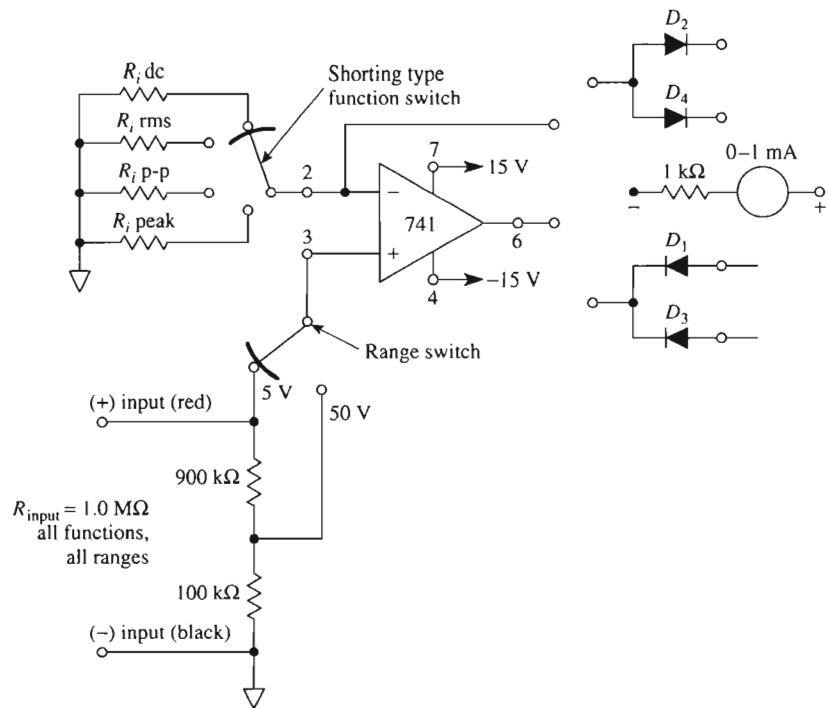

FIGURE P5-3
- 5-3. In Fig. P5-3 complete the schematic wiring between op amp, diodes, and milliammeter. The current through the meter must be steered from right to left.
- 5-4. Calculate a value for $R_{i_{dc}}$ in Fig. P5-3 so that the meter reads full scale when $E_i = 5 \text{ V}$ and the range switch is on the 5-V position.
- 5-5. Consider that the range switch is in the 5-V position in Fig. P5-3. Calculate values for the following resistors to give a full-scale meter deflection of 5 V: (a) $R_{i_{rms}}$ for $E_i = 5 \text{ V rms}$; (b) R_i p-p for $E_i = 5 \text{ V p-p}$; (c) R_i peak for $E_i = 5 \text{ V peak}$.